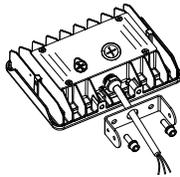

Figure 2-1
- Pass the input cable of the fixture through hole of the **Trunnion Bracket Part A**. (Figure 2-1)